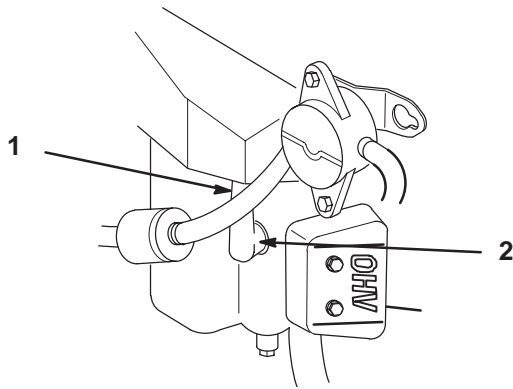

Figure 27
2. Pull the wire(s) off the spark plug(s) (Fig. 27). Now clean around the spark plug(s) to prevent dirt from falling into the engine and potentially causing damage.
3. Push the wire(s) onto the spark plug(s) (Fig. 27).